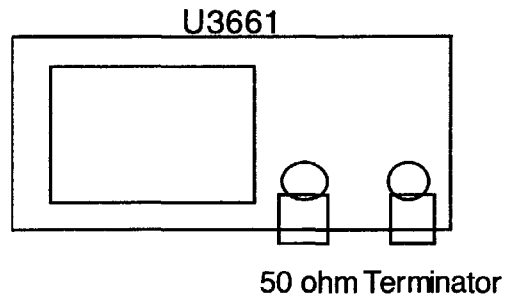

Figure 3-26 Setup of TG Leakage Test
1. Connect equipment as shown in Figure 3-26.